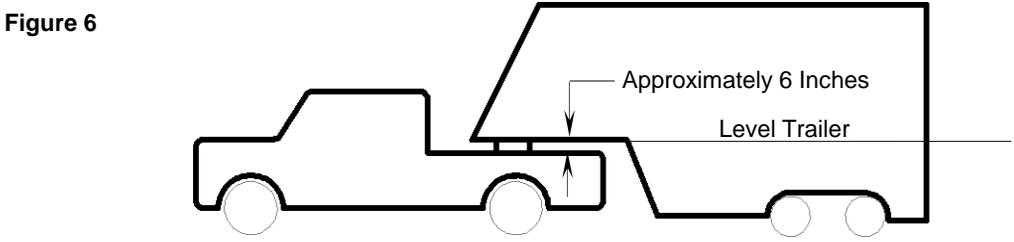

Figure 6
7. The height of the hitch and the pin box should be adjusted so the trailer is approximately level as it is towed. Allow approximately 6 inches clearance between the top of the pickup walls and the underside of the front of the trailer for pitch and roll of the trailer. (**Figure 6**). Allow more clearance between pickup walls and trailer for off road use.